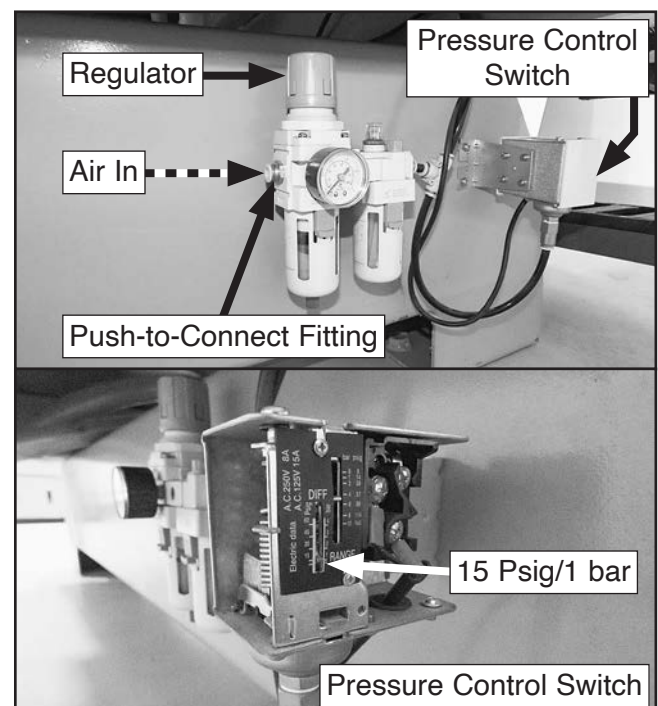

Figure 55. Example of connecting air supply to pneumatic system.
3. Insert other end of tubing into push-to-connect fitting on air inlet side of air filter (see **Figure 55**).
4. Increase in-line air supply regulator to 90 PSI and rotate machine regulator to adjust incoming air pressure to 90 PSI (see **Figure 55**).
5. Verify pressure control switch is set to 15 Psig/1 bar (see **Figure 55**).